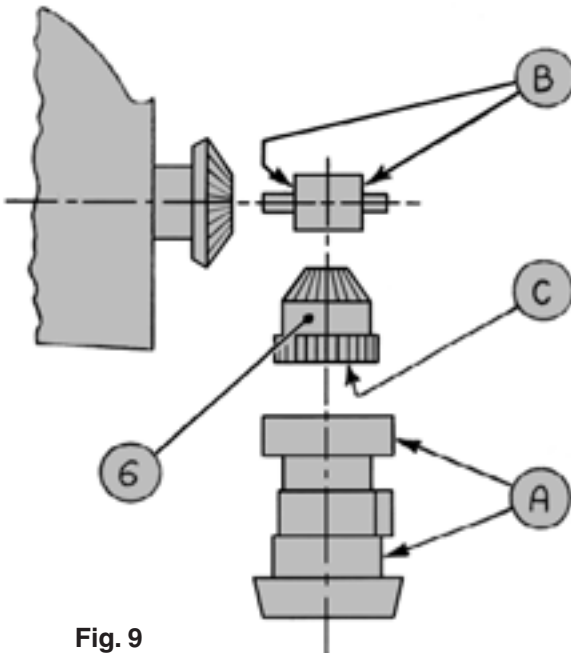

Fig. 9
- B) Sometimes it can happen that a small piece of metal or burr enters among the gears, or a piece of the propeller has been dinged; in this case the blade movement can become hard. It is necessary then to do as follows, referring to figure 9.
- I) Open the propeller and assemble it again after having taken the central cone gear (6) out, so that the blade and the hub rotation are independent. If the hub rotation is hard, remove 0.01 mm from surfaces "A" with an emery cloth. On the contrary if the blades rotation is hard, remove 0.01 mm from surfaces "B" of the spacer using emery cloth wrapped around a flat file. Try until both hub and blades rotate freely.
- II) Again mount the central cone gear (6) and reassemble the propeller. If the propeller rotation still has some hard points remove 0.1 mm with a flat file from surface (C) so that central cone gear sits lower and the clearance between conical gears increases.